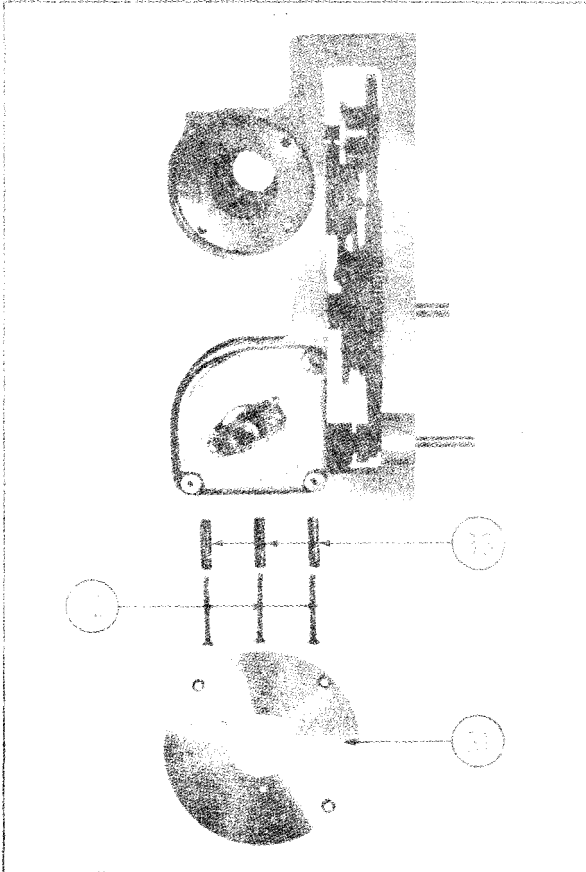
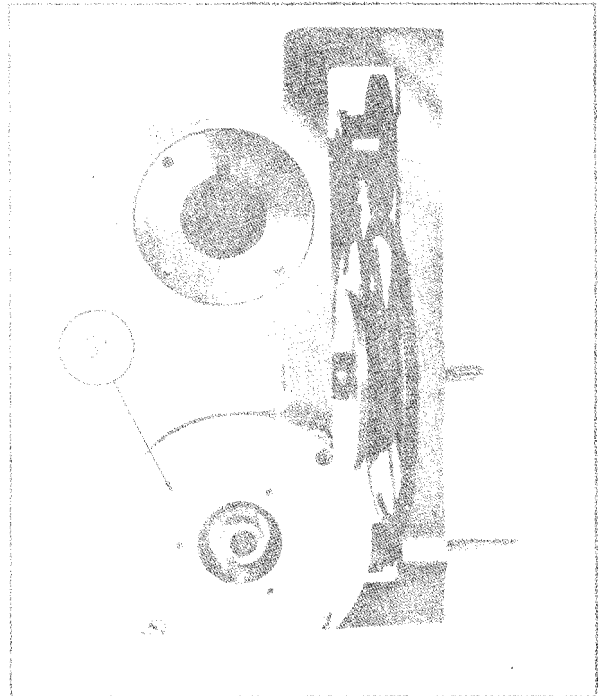

Figure 4-23. Parts Comprising Mounting Bracket for Potentiometer R-173
Figure 4-24. Bracket for Potentiometer R-173 in Place
Figure 4-23 shows the repeller potentiometer mounting bracket (31 ) with the 6-32 x 1½ inch machine screws (32) and 1-1/16 inch long spacers (33) which mount it to the casting. The parts should be assembled and mounted to the casting as shown in figure 4-24. It is desirable to cement the mounting screws with glyptol or some similar cement.